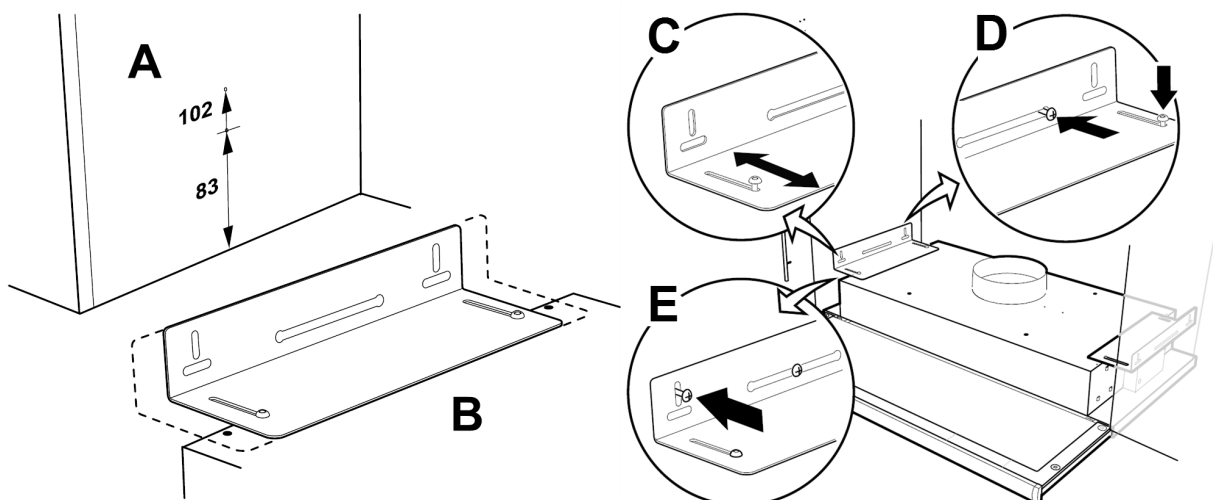

Fig. 12 Installation using brackets
Mark out and fasten screws so that they protrude a few millimetres from both cupboard sides (figure 12, pos. A). If it is intended to align the underside of the cooker hood with the underside of the row of cupboards, use the upper measurement 102; see figure 12, pos. A. The cooker hood brackets are adjustable to fit various cupboard depths (figure 12, pos. B).
2. Move the cooker hood brackets without fully tightening the screws and adjust the brackets so that they fit the sides of the cupboards (figure 12, pos. C). Hang the cooker hood in the pre-installed screws in the side of the cupboard.
Tighten the screws in the bracket and on the wall (figure 12, pos. D). Lock the brackets into position using the locking screws (figure 12, pos. E).